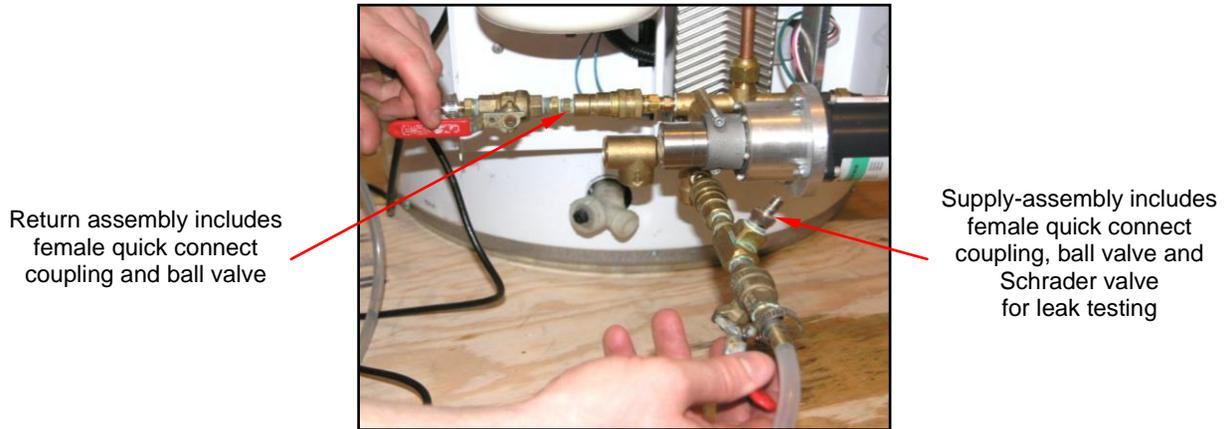

Fig.5.1.1 – Charge Kit supply and return assemblies.
2. Connect fluid line out from charge pump to forward-facing male quick connect, located below Energy Station pump on lower manifold (Fig.5.1.1). Supply connection assembly includes female hydraulic quick connect coupling, ball valve and Schrader air valve.
3. Connect return line (that will return fluid from appliance to reservoir) to left pointing male quick connect (when facing Energy Station) on lower manifold (Fig.5.1.1). Return connection assembly includes female hydraulic quick connect coupling and ball valve.